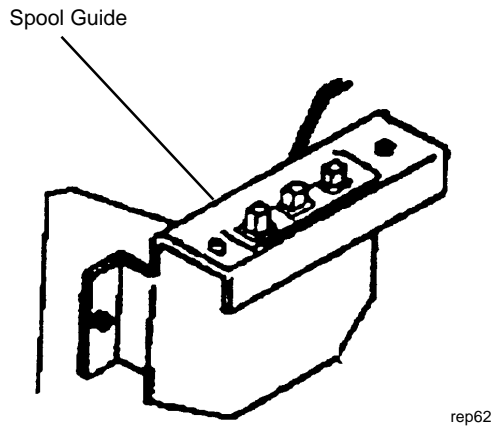

Figure 1. Removing the Spool Guide
2. (Figure 1): Remove the two screws and remove the Spool Guide.